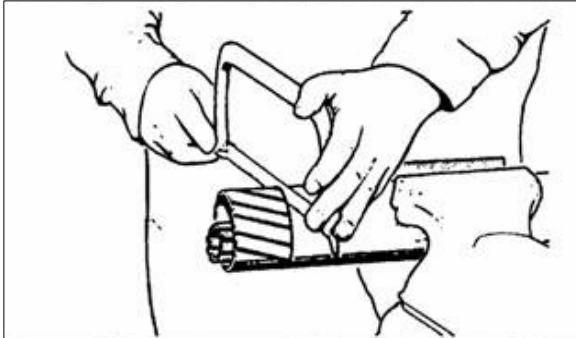

Figure 11: Cutting the plastic section
- Only the plastic section should be cut.(Figure 11).